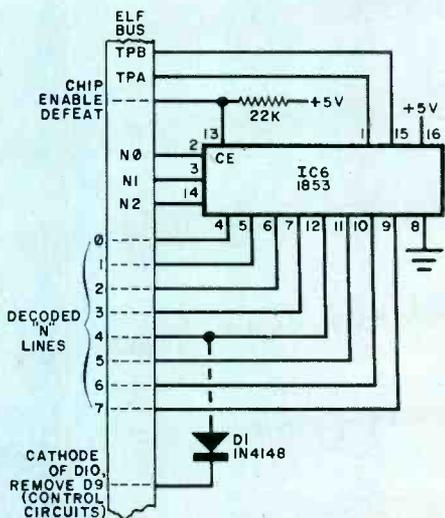

Fig. 4. The N-line decoder expands three lines from 1802 into eight.
**N-Line Decoder.** The three N-lines (N0, N1, N2) of the 1802 can be decoded into eight separate instructions that can be used to control eight I/O (input/output) ports using the circuit shown in Fig. 4. The decoded outputs can be connected to unused lines on the bus for easy connection to any future I/O control inputs. Control line 4 is connected to the cathode of D10 in the Elf-II (D3 in the original Elf) with D9 (D4 on the original) removed. This will allow the 6C and 64 instructions in the original programs to be executed properly.